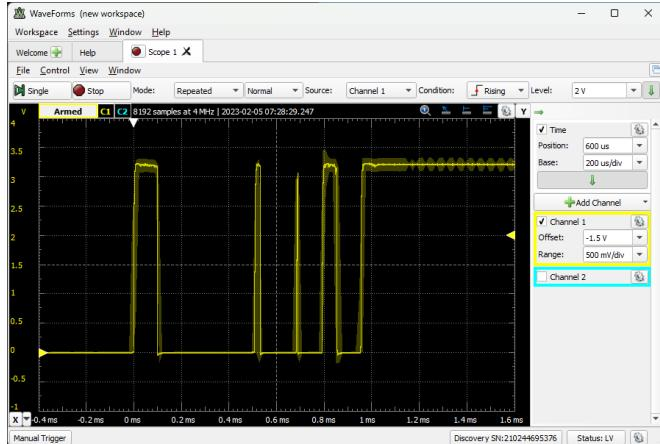

Figure 12: Oscilloscope demonstrating bouncing (mechanical button pressed)
In Alternate Function (AF) mode, a GPIO pin is no longer controlled by the ODR register, but by a MCU peripheral block, say USART, SPI, I2C and so on; see Figure 12.